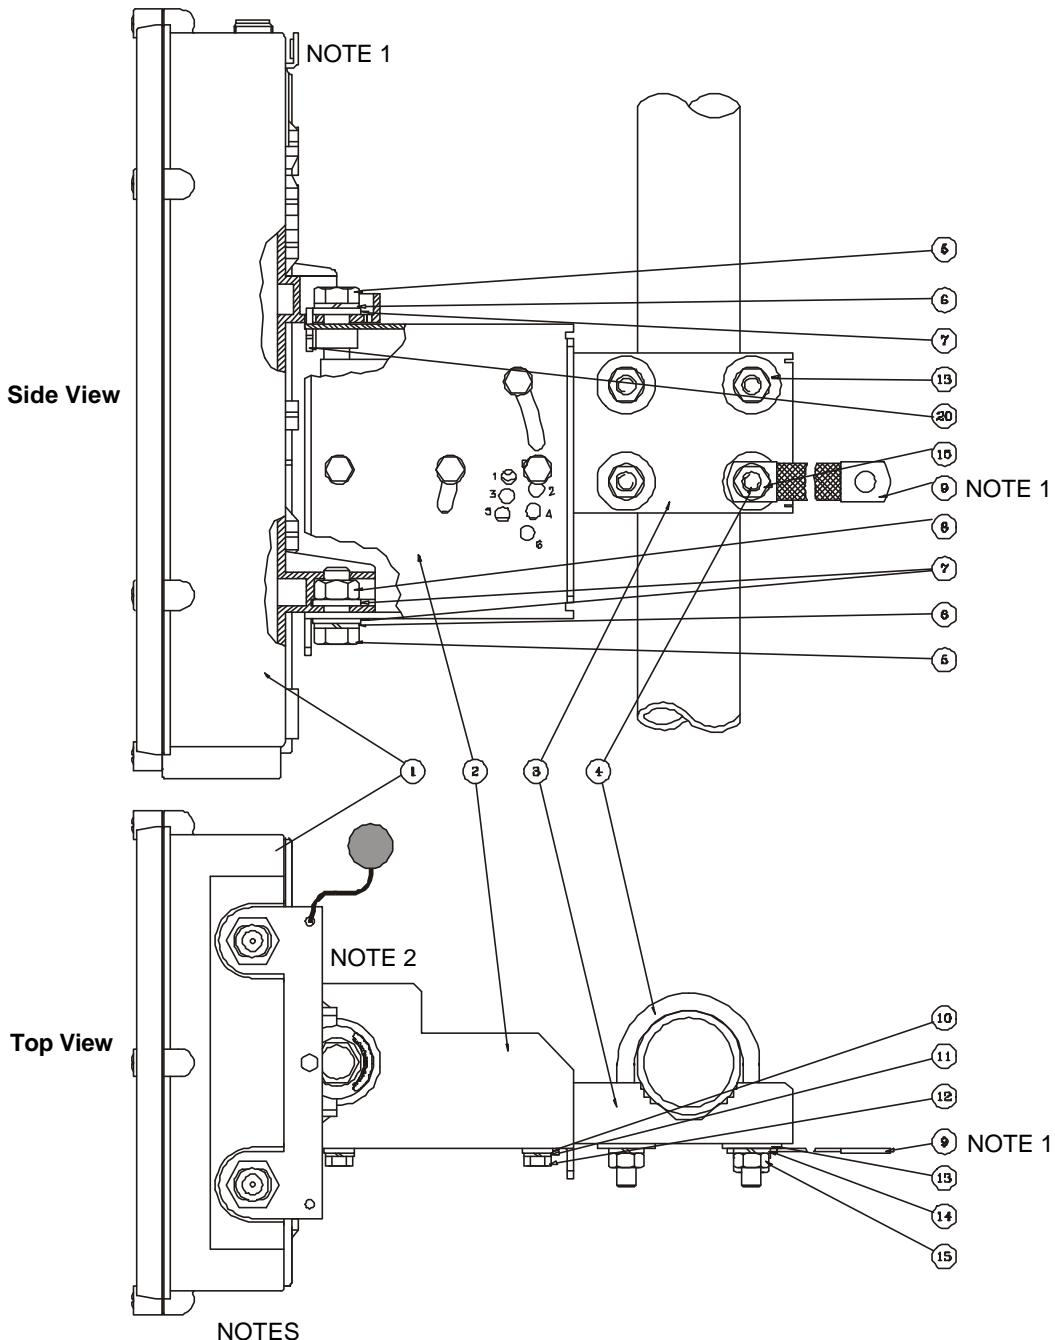
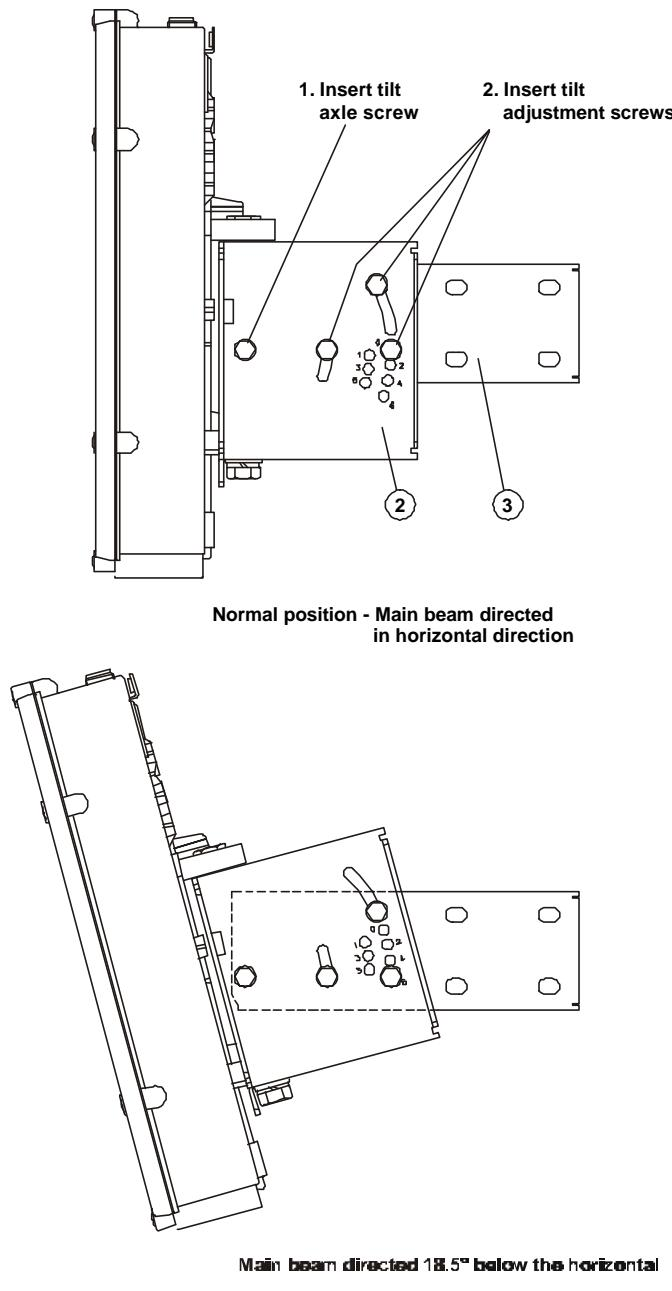
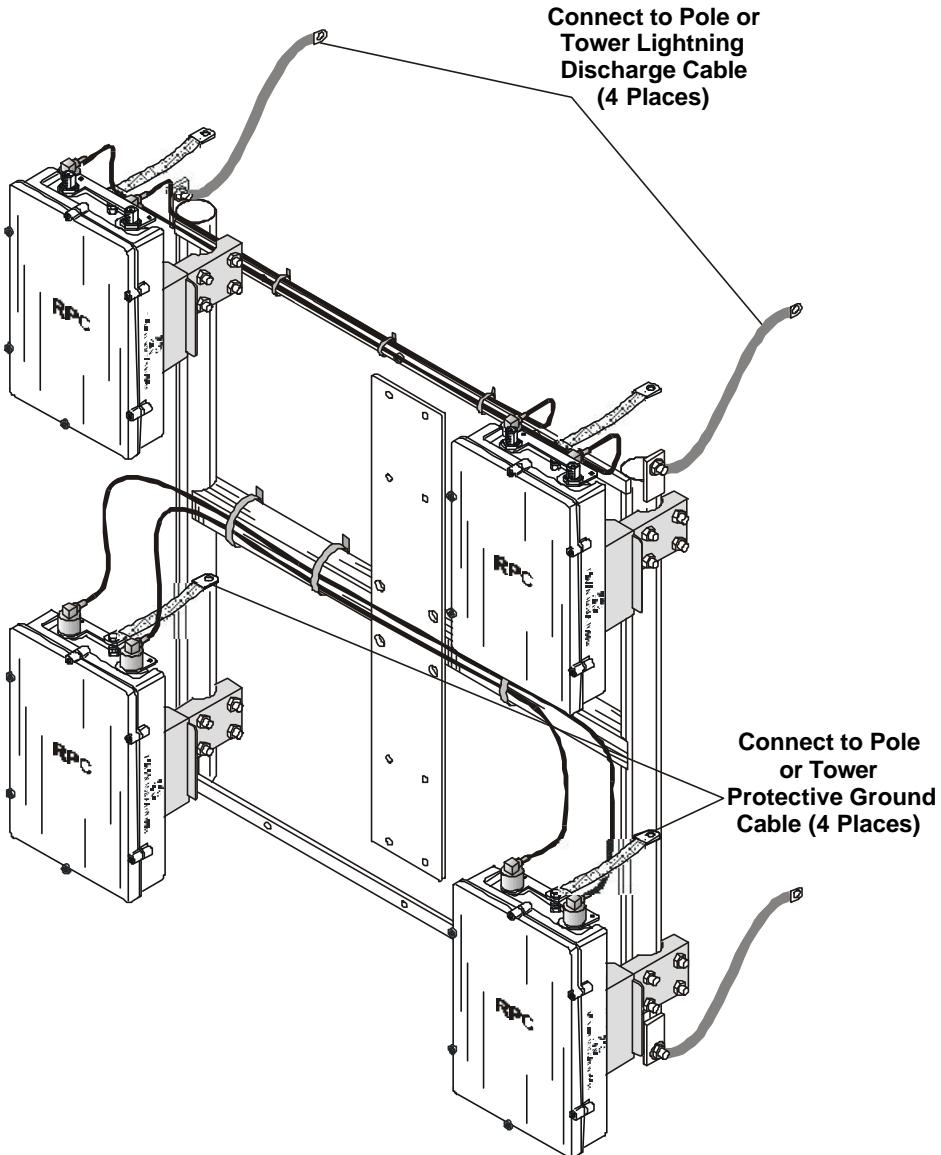

Figure 4-3. RPC and Tilt Accessories
Figure 4-6. RPC Tilt Adjustment
Figure 4-7. Four RPC's Mounted on H-Support
Refer to Figure 1-5 and Figure 4-3 through Figure 4-6. Numbers in brackets indicate numbers of items in Figure 4-3 through Figure 4-6. Perform the following procedure:
- d. Tilt Accessories Attachment. Refer to Figure 4-3 through Figure 4-6.
- (3) Insert a screw and spring and flat washers (5, 6, 7) through the upper RPC attachment ear (as shown in Figure 4-3) and screw it by hand in the thread of the tilt holder (2).
- (4) Insert a screw and spring and flat washers (5, 6, 7) through the lower RPC attachment ear. Insert a flat washer and a nut (8), and then screw the nut by hand, clockwise, on the screw that fastens the lower attachment ear.
- (5) Position the tilt bracket (3) in the inner side of the tilt holder (2), fasten it to the tilt holder using the tilt axle screw (12) and spring and flat washers (10, 11). Tighten the screw by hand.
- (6) Insert the split pin (20) in the dedicated holes through the upper ear and the tilt holder and secure it by bending its ends.
- (7) Tighten the upper and the lower screws (5) and nut (8).
- (8) Position the tilt bracket to zero tilt. Insert the three tilt adjustment screws and washers and tighten them so that the tilt holder will stay in the horizontal position (i.e., zero tilt).
- (9) Refer to Figure 4-6 and to para 4.4.2. The tilt assembly enables to direct the main beam of the RPC in the horizontal direction and below the horizontal up to -18.5° , as specified in Table 4-1. Adjust the RPC to the desired tilt position. Place the tilt adjustment screw in the appropriate position in accordance with the desired tilt angle and tighten the tilt axle and the tilt adjustment screws. Do not exert excessive force.
- (10) Skip this step for RPC with external reflector, attach a grounding strap (9) to the RPC grounding plate by means of a screw (21), flat washer (22), spring washer (14), and nut (15), as shown in Figure 4-3.
- (1) Refer to Figure 4-7. Determine the place of the RPC on the H-support in accordance with the requirements of para. 2.2.2.
- (2) Secure the tilt bracket (3) to the H-support by means of two tilt clamps (5), washers (13, 14) and nuts (15).
- (3) If the RPC has an external reflector, insert a grounding strap (9) between the flat and the spring washer on the lower tilt clamp, as shown in Figure 4-3.
- (4) Adjust the RPC heading by rotating the tilt bracket around the pipe of the H-support until the desired RPC heading is reached.
- (5) Tighten the four nuts (15) that secure the tilt bracket (3) to the H-support.
Figure 4-7 shows four RPC's attached to a H-support.
One. Connect RF cables of each RPC and its associated RPC as shown in Figure 4-7.
Two. Attach the grounding straps to the H-support in the places shown in Figure 4-7, by means of screws, spring and flat washers, and nuts.
Refer to Figure 3-2, Figure 4-7 and Figure 3-25. Numbers in brackets indicate numbers of items in Figure 3-2 and Figure 3-25.
- Seven. Connect the H-support to the tower or to the grounding bar (as applicable), by means of grounding cables, as shown in Figure 3-25 and Figure 4-7.